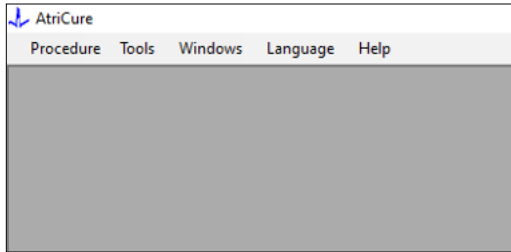

Figure 3: Software Interface Features/Menu
1. *RF_Display* software has five different features/menus in the software (refer **Figure 3**):